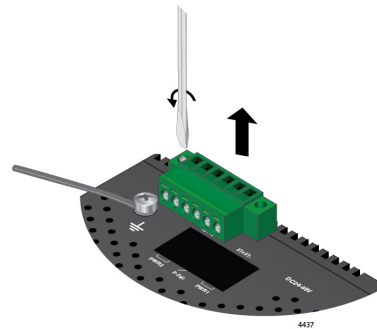

Figure 31. Remove Power/Alarm Connector
3. Loosen the two fastening screws on the ends of the Power/Alarm connector . Remove the power/alarm connector from the top panel. Figure 31 shows the removal of this connector.